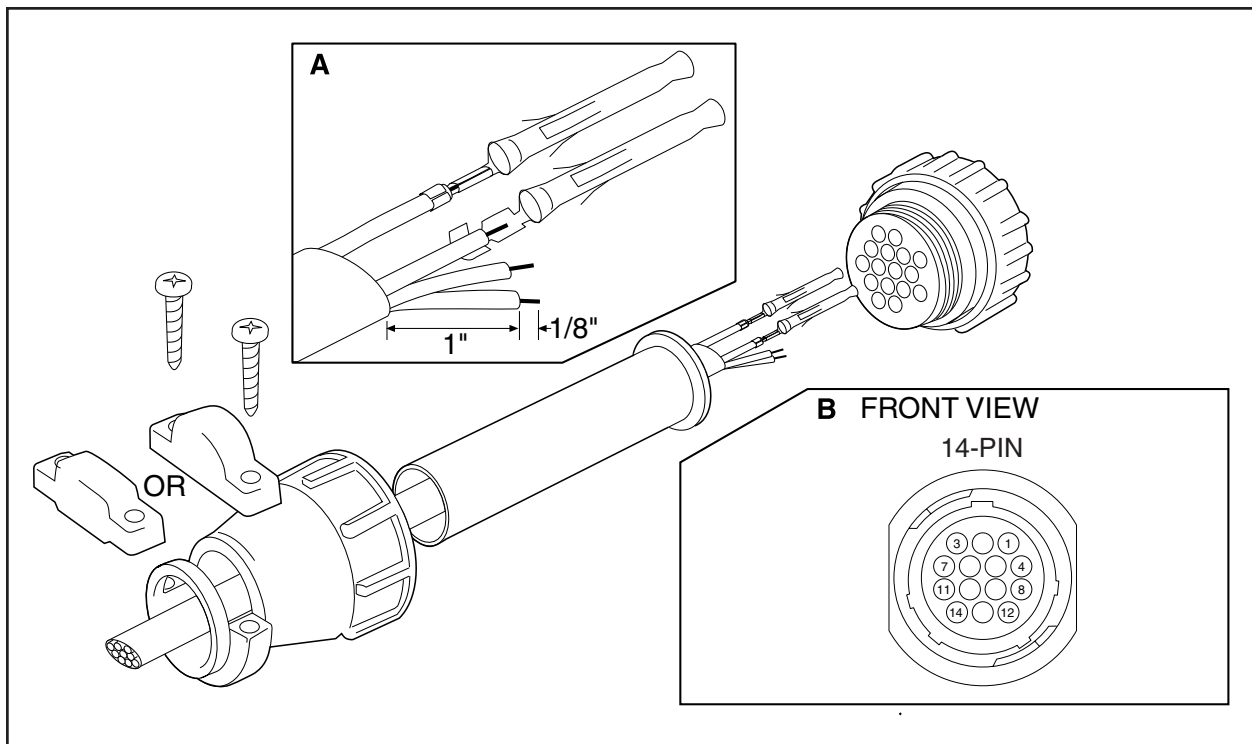

Figure 4. Connector Assembly
Assemble the connector parts according to the instructions below. Detail B, below, reflects the pin arrangement specific to all PT506-24DT Pan/Tilt and Lens Control and the PT506-24A Auto/Random Scan Control. Refer to Figure 4 during assembly. For best results use an AMP style crimper when making the wire to pin connection.
- c. Using an AMP style crimper, crimp the wires and their insulation to the connector pins. Refer to Detail A in Figure 4.
3. Slide the connector pins into the appropriate holes in the connector body until they snap into place. Refer to Figure 4 for correct pin arrangement, depending on model and options.